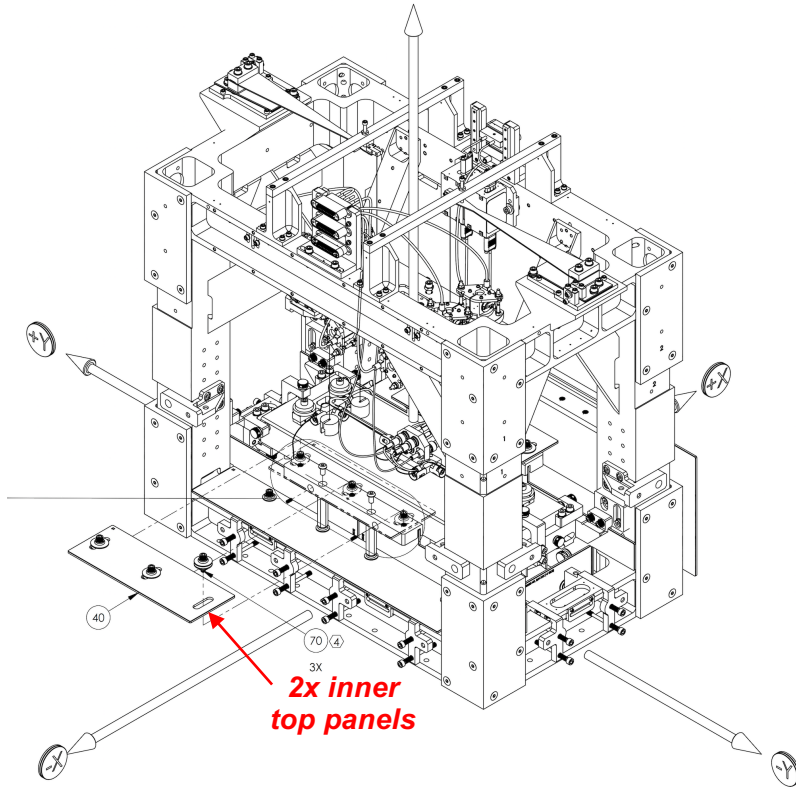

Figure 5: Inner top panels (D0900295 Sheet 15)
- Loosen three screws of each inner top panels (D1500116) (Figure 5). Slide the panels outward to allow us to access the OMC breadboard.